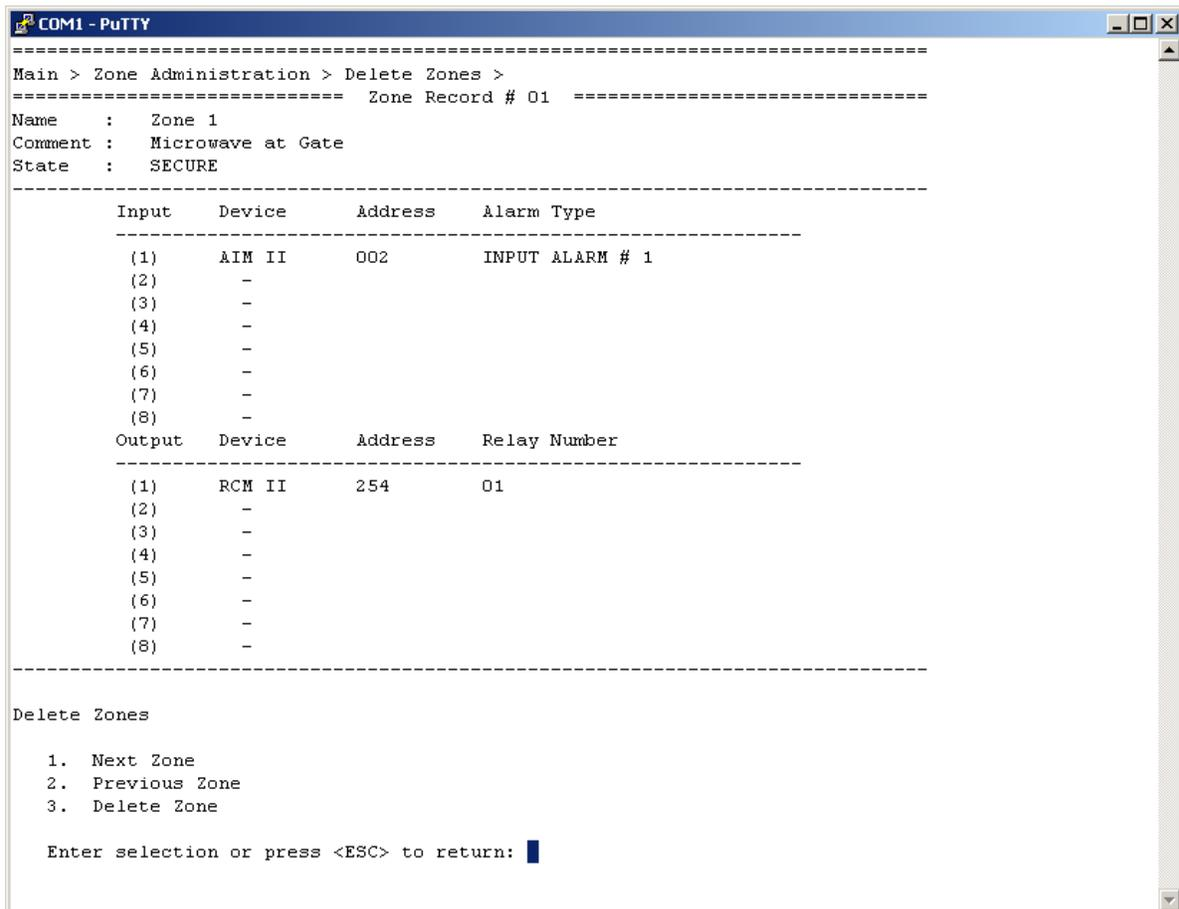

Figure 37 – Delete Zones Screen
Selecting command number 3 from the Zone Administration Menu will open the “Delete Zones” screen as shown in Figure 37. There will be three (3) command selections available: Next Zone, Previous Zone and Delete Zone. Once a Zone Record has been completed and saved, any existing Zone Record can be deleted using this menu. Next (1) and Previous (2) tab through all defined Zone Records. Delete Zone (3) will delete the record. A prompt for Yes or No will be displayed.